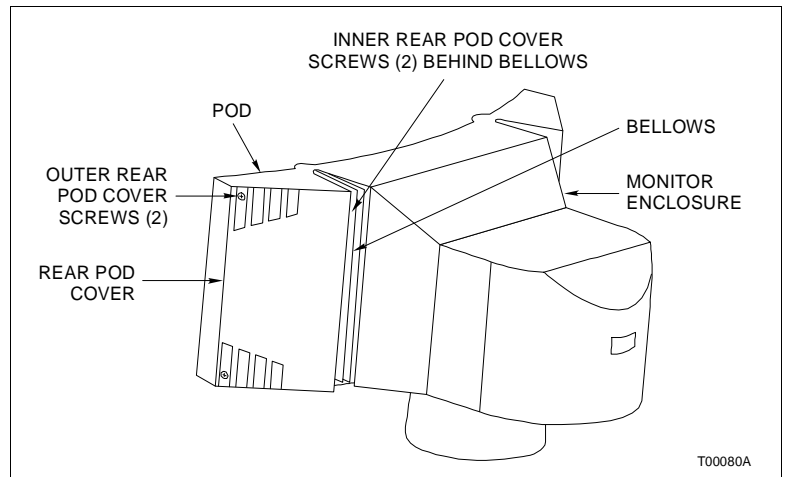

Figure PR70-1. Rear Pod Cover
2. Use the long Phillips head screwdriver to remove the two outer rear pod cover screws (Fig. PR70-1).